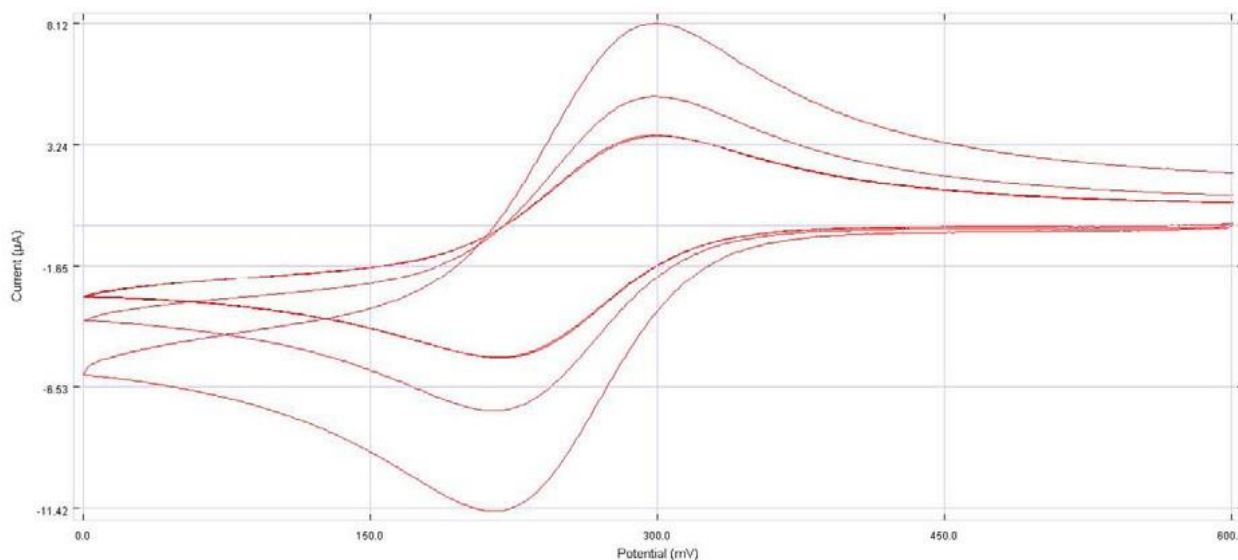

Figure 7 - Overlaid cyclic voltammograms
9. The three data sets run at different scan rates can be displayed on the same sets of axes using the **File Overlay** function in the **Graph** menu. All open *.edata files will be added to the overlay (**Figure 7**).